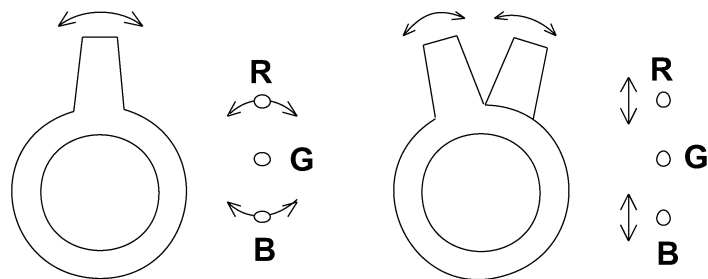

Fig. 6
1. Loosen the Ring Lock and align red with blue dots or Crosshatch at the center of the screen by rotating (RB) C.P. Magnets. (See Fig. 6)